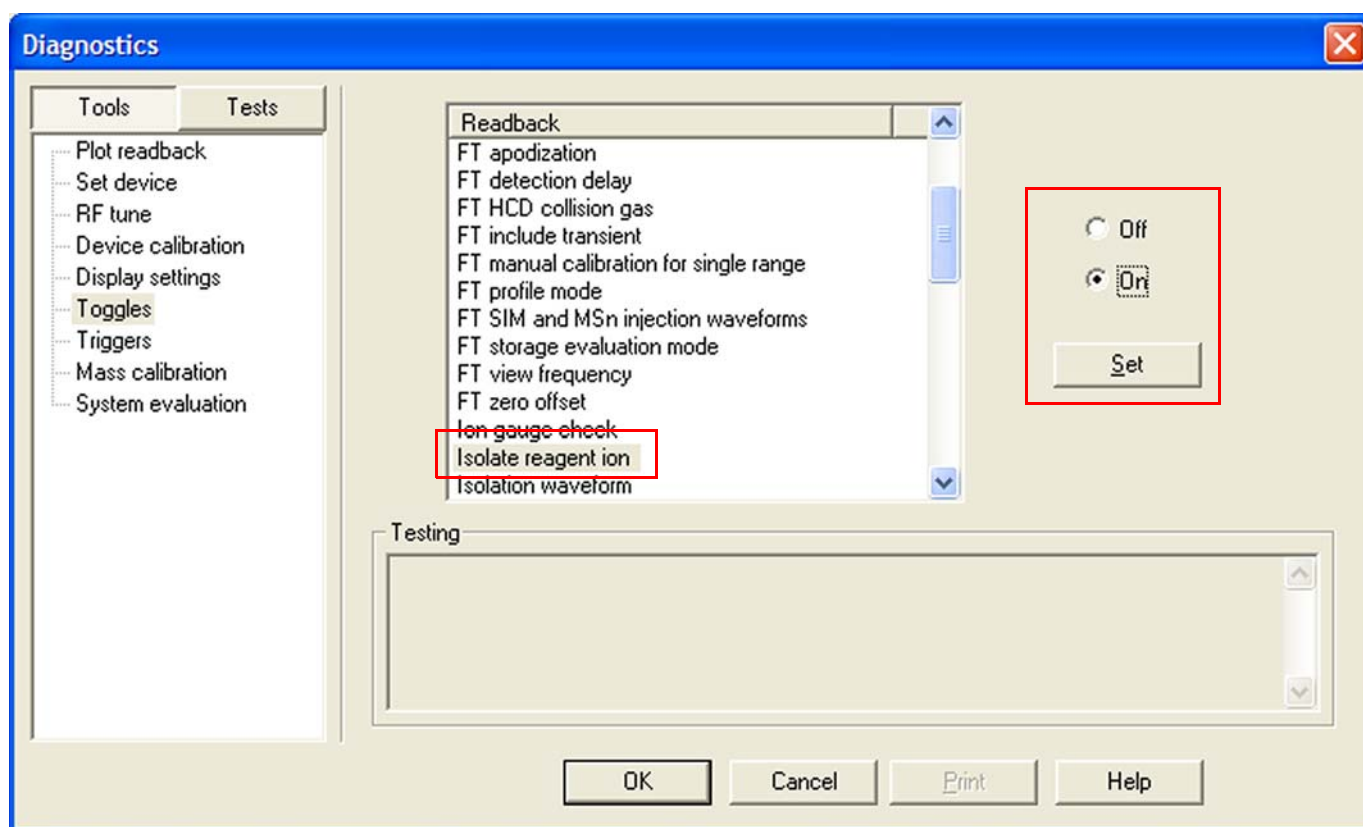

Figure 7-18. Activating Reagent Ion Isolation
3. Set **Isolate reagent ion** to On. See Figure 7-18 on page 7-21.